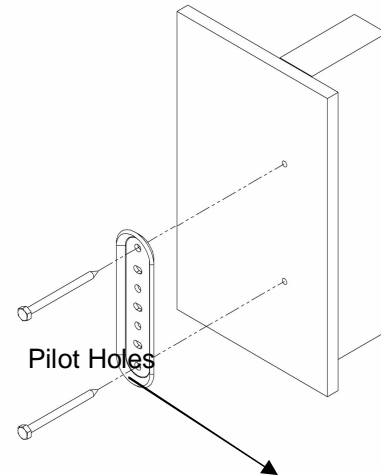

Figure 3. Secure Wall Bracket to Wall
2. Using wall bracket (30) as a template, mark two pilot holes (see Figure 3).